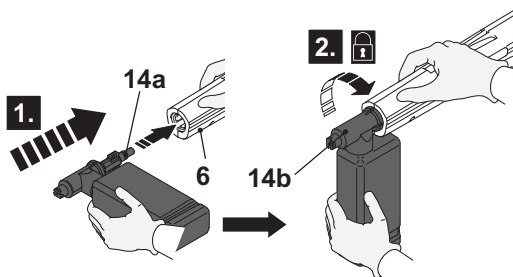

Fig. 16
- > Align and insert the tongues (14a) of the soap tank (14) with the grooves of the connection port of the spray gun (6) . (Fig. 16, step 1).
- > Securely fit the soap tank by turning it clockwise to lock it in place (Fig. 16, step 2).
- > Attach the water hose adaptor (18) on the water inlet (13).
- > Attach a suitable water hose (not included) onto the water supply and then the other end onto the water hose adaptor (18) (Fig. 16).
**NOTE:** The adaptor (18) contains filters (18a) to protect the product against larger particles. Ensure the filters are fixed appropriately in position. Do not use the water inlet and the adaptor without filter.